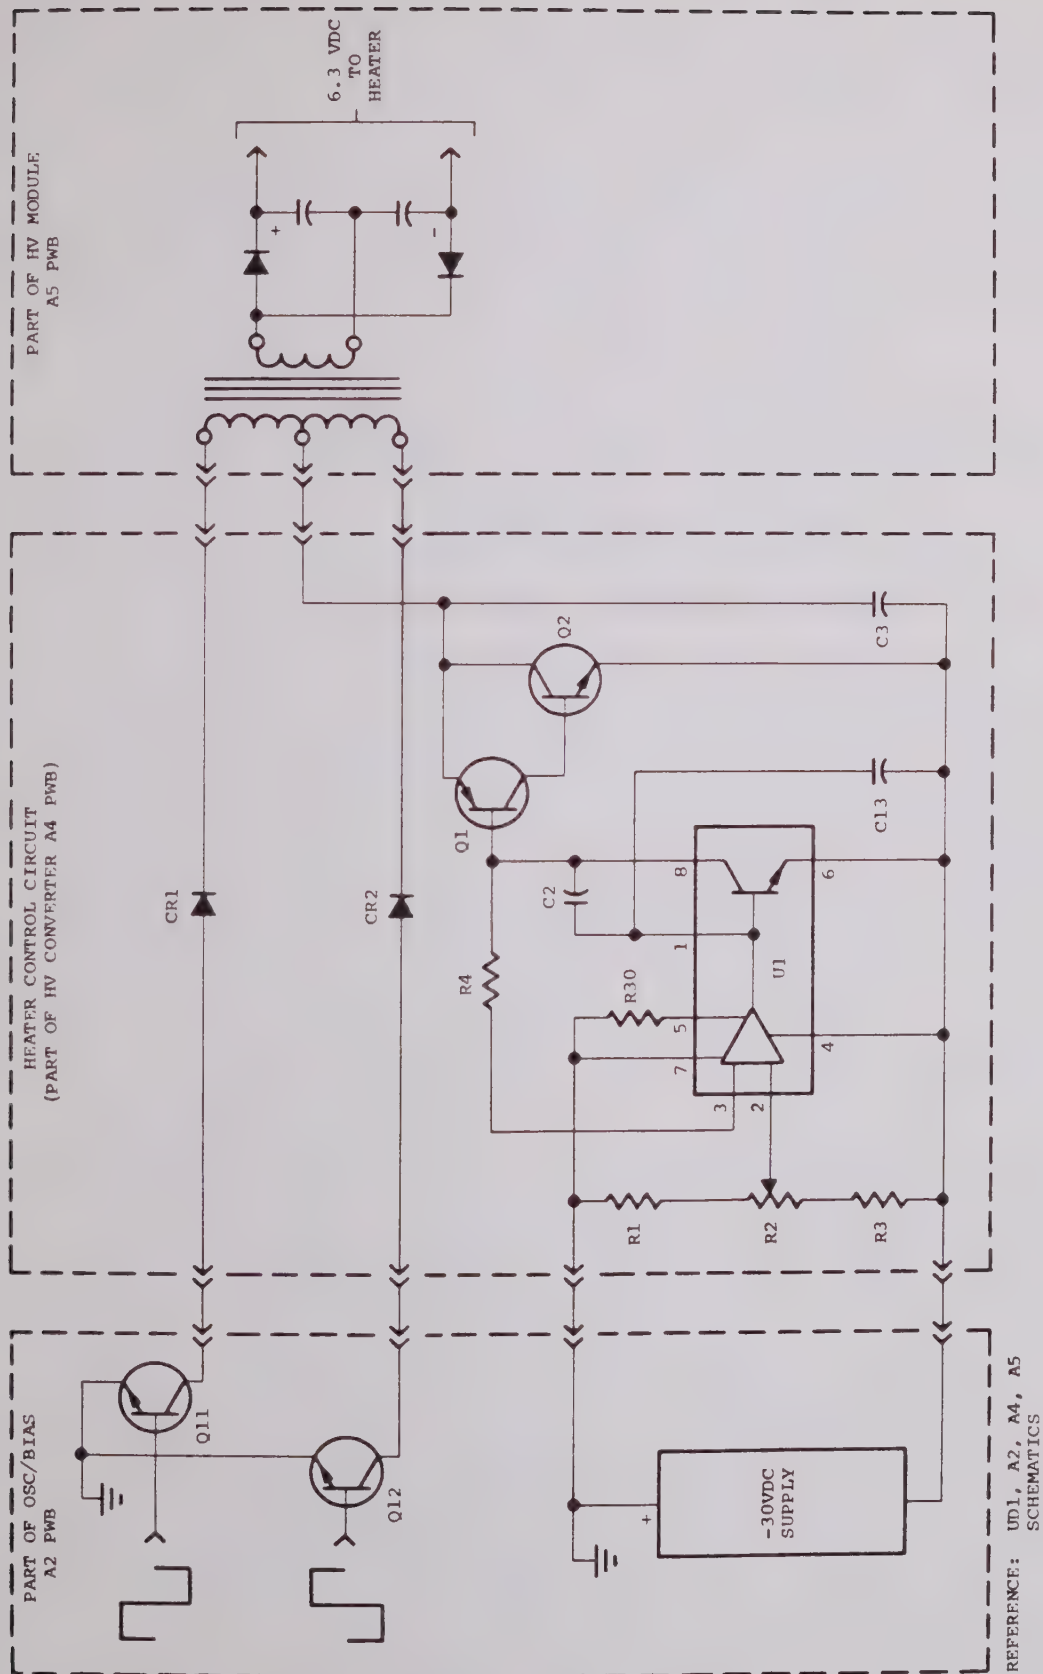

FIGURE 5-7 HEATER SUPPLY
5.2.5.1 Heater Supply Control. The operation of this circuitry can be best understood by looking at the entire TWT heater circuit. As shown in Figure 5-7 the heater supply is distributed on three functional elements. These are:
5.2.6.2 Heater Supply. The circuit for the heater supply is shown in Figure 5-7. A 29 VAC square wave input on the primary of T1 is rectified and doubled by CR1, CR2 and filtered by C1, C2. Zener CR3 provides protection in the event of heater arcing.